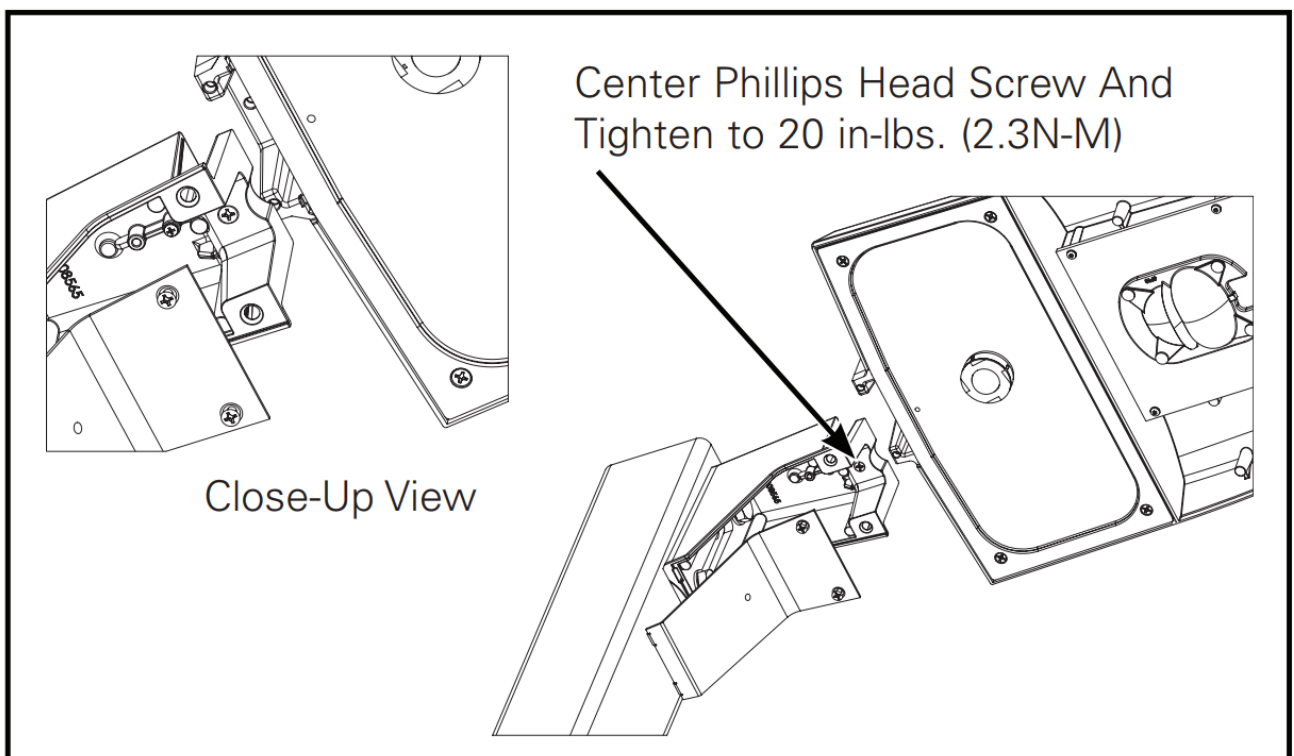

Figure 3.
3. Fold fixtures wires tightly towards fixture door when sliding fixture on to mounting arm. Tighten the center phillips head screw to 20 in-lbs. (2.3 N-M). (Figure 3.)